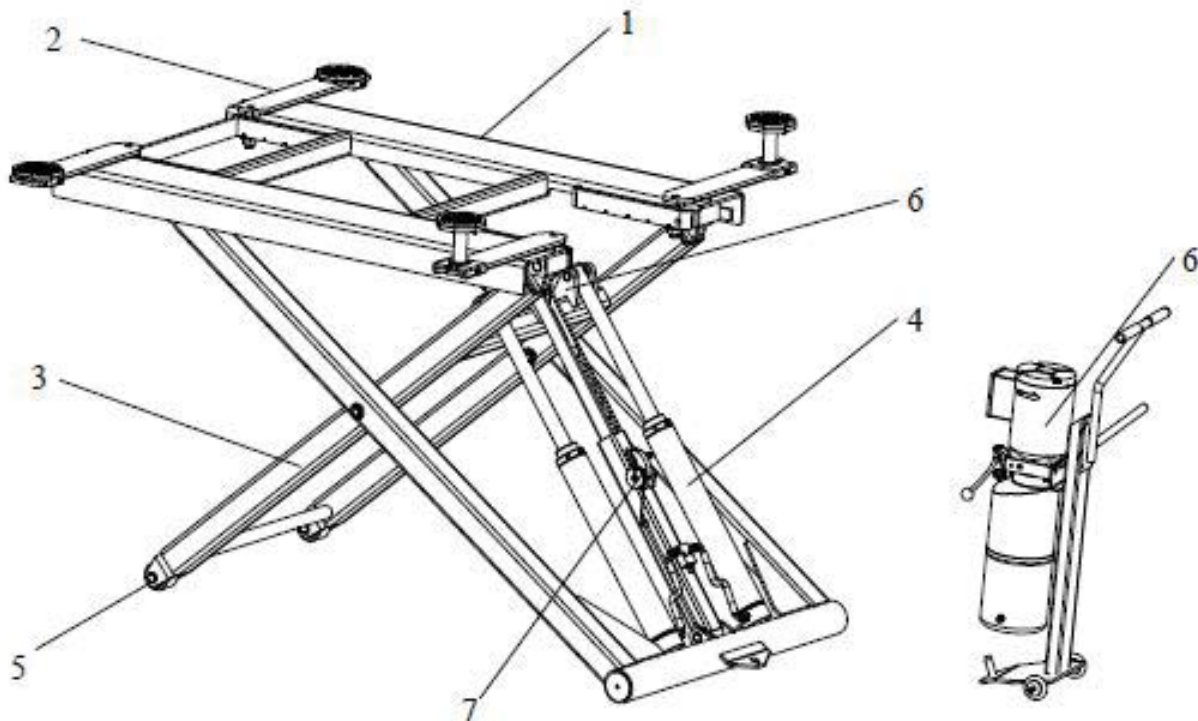

Figure 1 – Lift
Lift Description (Ref. Figure 1)
This chapter describes the lift's principal elements, allowing the user to be familiar with the machine. As shown in figure 1, the lift is composed of a frame (1), N.4 lifting arms (2), N.2 pair of scissors (3) and N.2 cylinders (4), can be movable by means of wheels (5). The lifting and lowering motion is carried out by operation of the lifting button and the lowering lever on the control unit (6). The mechanical safety (7) operating manually is installed between 2 cylinders.